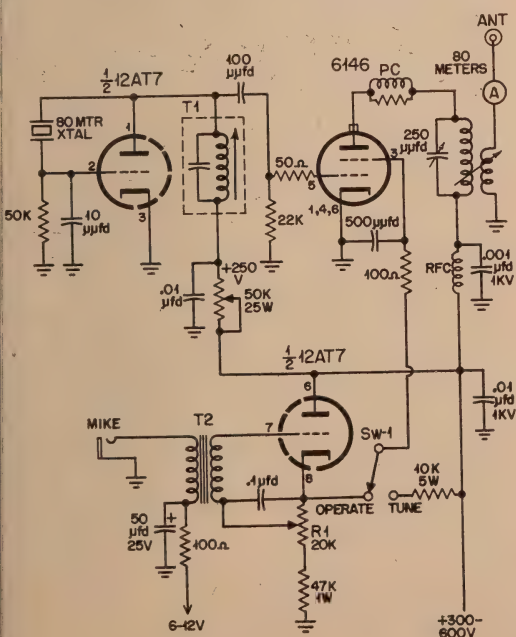

Fig. 9. The "Golden Gate" screen modulation circuit applied to a 6146 tube.
A simple variation of the usual gating system has been employed by many amateurs in the San Francisco bay area with considerable success. Shown in *Figure 9*, this simple 75 meter phone transmitter employs but two tubes, a 6146 r-f amplifier, and a 12AT7 serving both as crystal oscillator and gating modulator.
- 1—T2 same as in Fig. 9